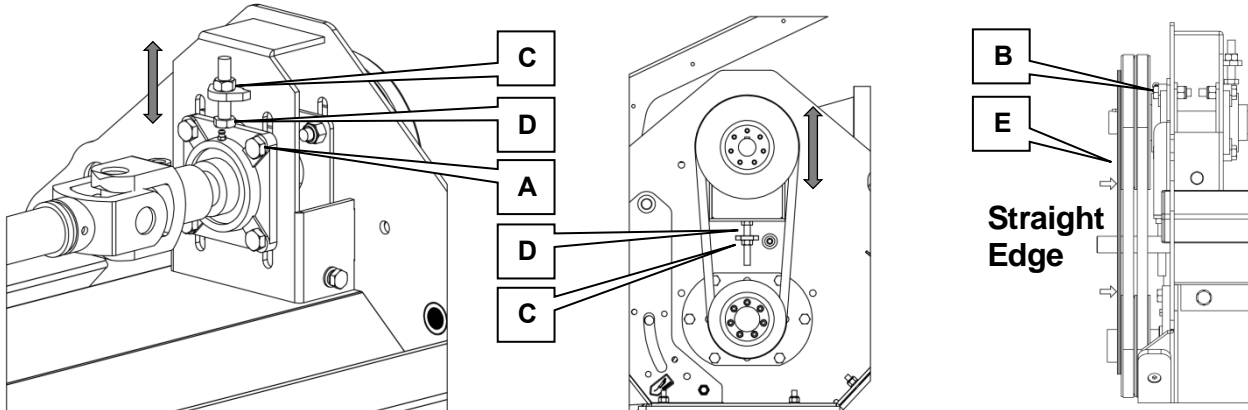

Figure 6.4
Adjustment of the belt tension is performed by loosening the 4 bolts on the inner bearing collar (A) and the 4 bolts on the outer bearing collar (B), see Figure 6.4 below. Then using a spanner loosen off the locking nuts on the bearing tensioners (C) and then rotate the bolts (D) up or down to increase belt tension until belt deviation matches the required measurement – see above. Once the correct belt tension is achieved, tighten up the nut (C) to lock the bolt in position.